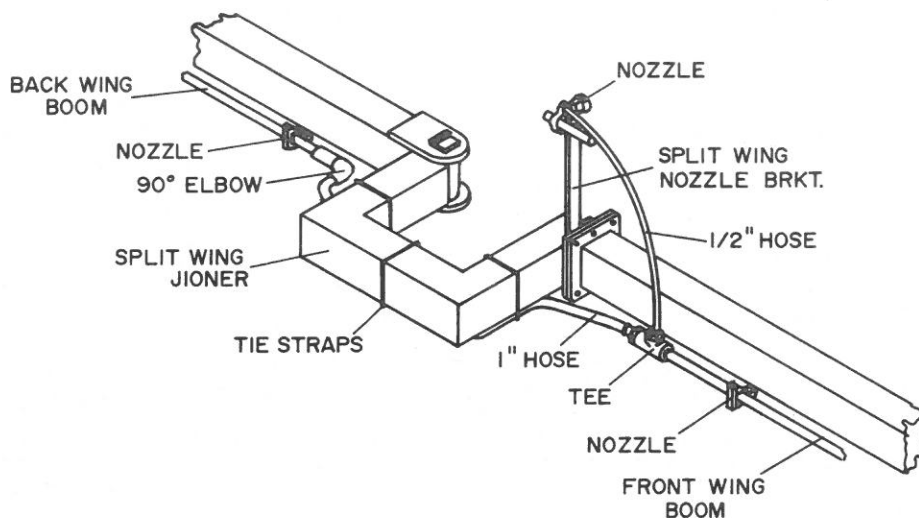

Fig. 12
STEP 10: FOR SPLIT WING BOLT SPLIT WING NOZZLE BRACKET TO WING TUBE USING MIDDLE BOLT ON FRAME. CONNECT NOZZLE TO SPLIT WING NOZZLE BRACKET. INSTALL $\frac{1}{2}$ " HOSE x 36" TO TOP HOLE ON TEE AND TO 90° ELBOW ON NOZZLE ON SPLIT WING NOZZLE BRACKET. SECURE HOSE IN PLACE WITH HOSE CLAMPS. SECURE 1" HOSE x 60" IN OTHER END OF TEE. GOING ALONG MIDDLE OF SPLIT WING JOINER SECURE 1" HOSE WITH TIE STRAPS. SECURE OTHER END OF 1" HOSE TO 90° ELBOW ON BACK WING BOOM. SECURE HOSE ALSO WITH HOSE CLAMPS. REFER TO FIG. 12.